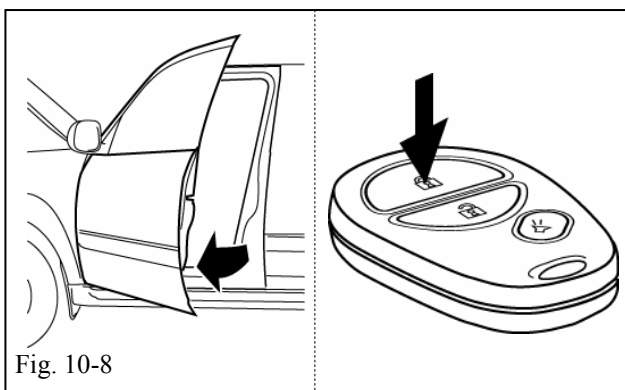

Fig. 10-8
- (k) Open the Driver's Door. (Fig. 10-8)
- (l) Using the Remote, press the Lock Button twice within 2 seconds. (Fig. 10-8)
- (m) Press and hold the lock button for 4 seconds. (Fig. 10-8)